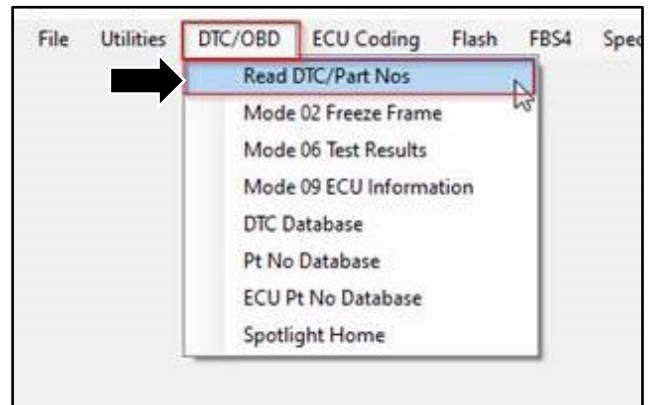

Figure 1
5. Select "DTC/OBD" then select "Read DTC/Part Nos" (refer to Figure 1).